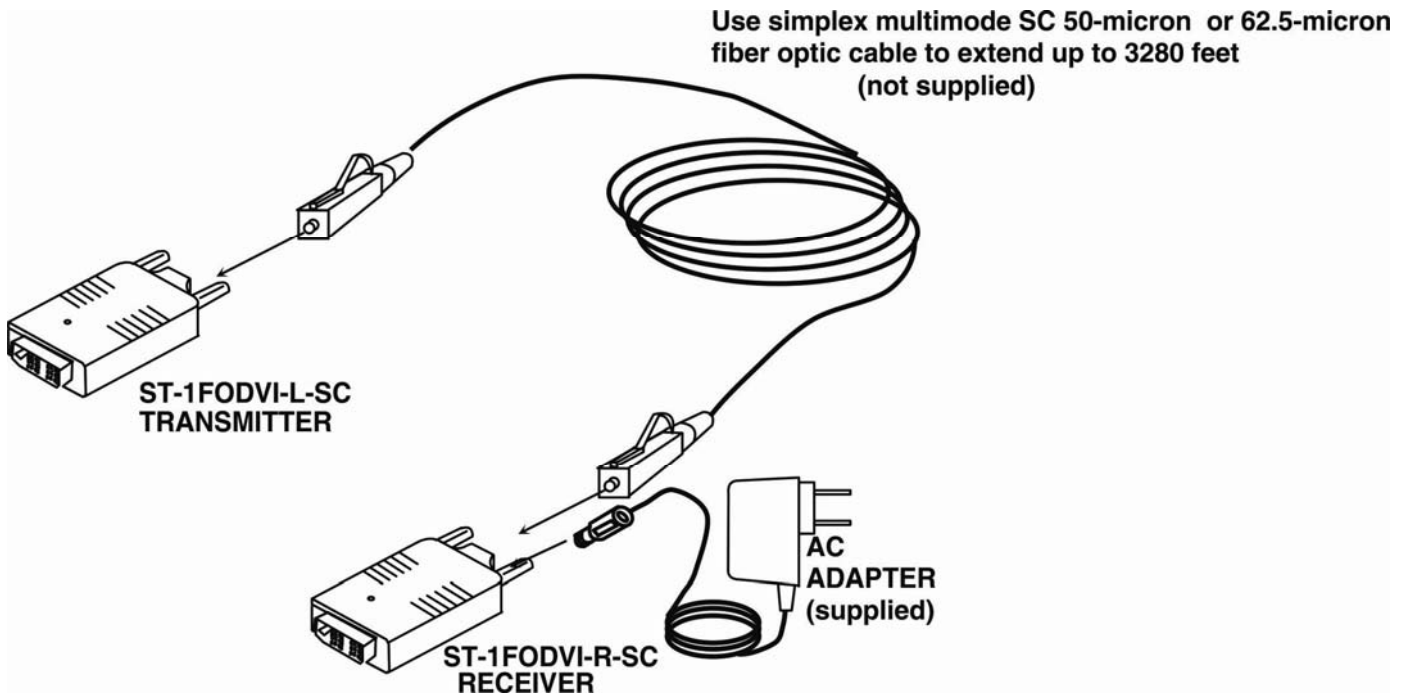

Figure 3- Connection of optical fibers
4. Connect simplex optical fiber (not supplied) between the transmitter and the receiver as shown in Figure 3